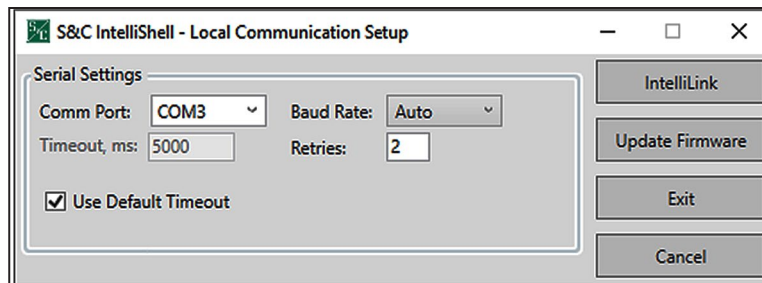

Figure 15. The Communications Parameters entries in the S&C Electric IntelliShell—Local Communication Setup dialog box.
- (d) Click on the **IntelliLink** button. See the “Firmware” section on page 23 when a firmware update is required. See Figure 15.